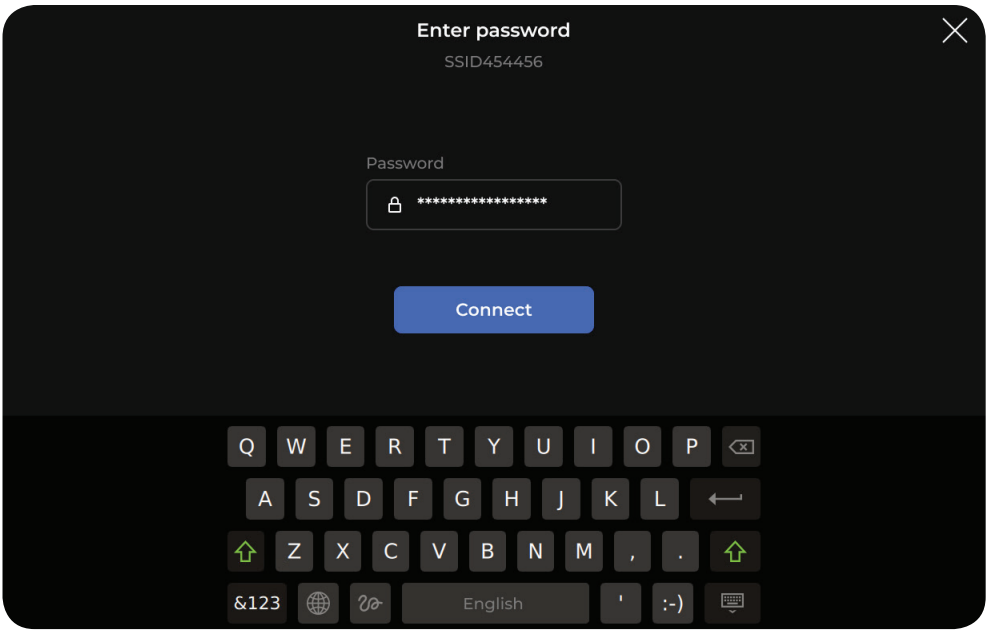

Fig. 9 Wireless network password field
- 1. For wireless connection, specify the name (SSID) of a wireless network. Tap the Search button and select one of the available networks from the list. Afterward, enter your network password in the Enter password field (Fig. 9).